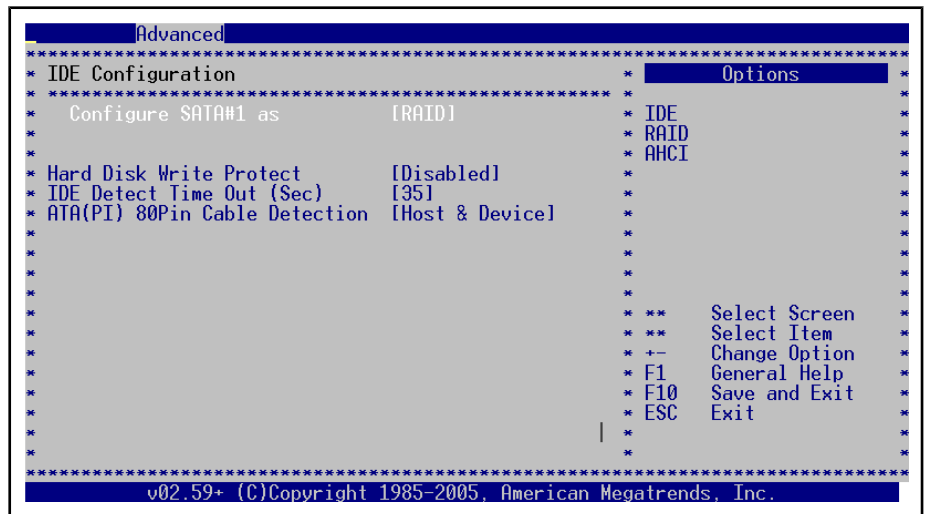

Fig.9-20: Configure ATA/IDE as RAID
3. Select under "ATA/IDE Configuration" the "Enhanced" entry, see fig. 9-20 "Configure ATA/IDE as RAID" on page 83